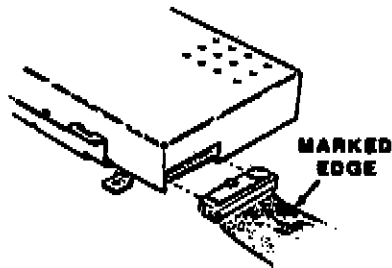

Figure 3-13. Hard Drive Ribbon Cable
4. Use a small flat-blade screwdriver to pry the ribbon cable connector from the hard drive, as shown in Figure 3-13. Set the hard drive aside.